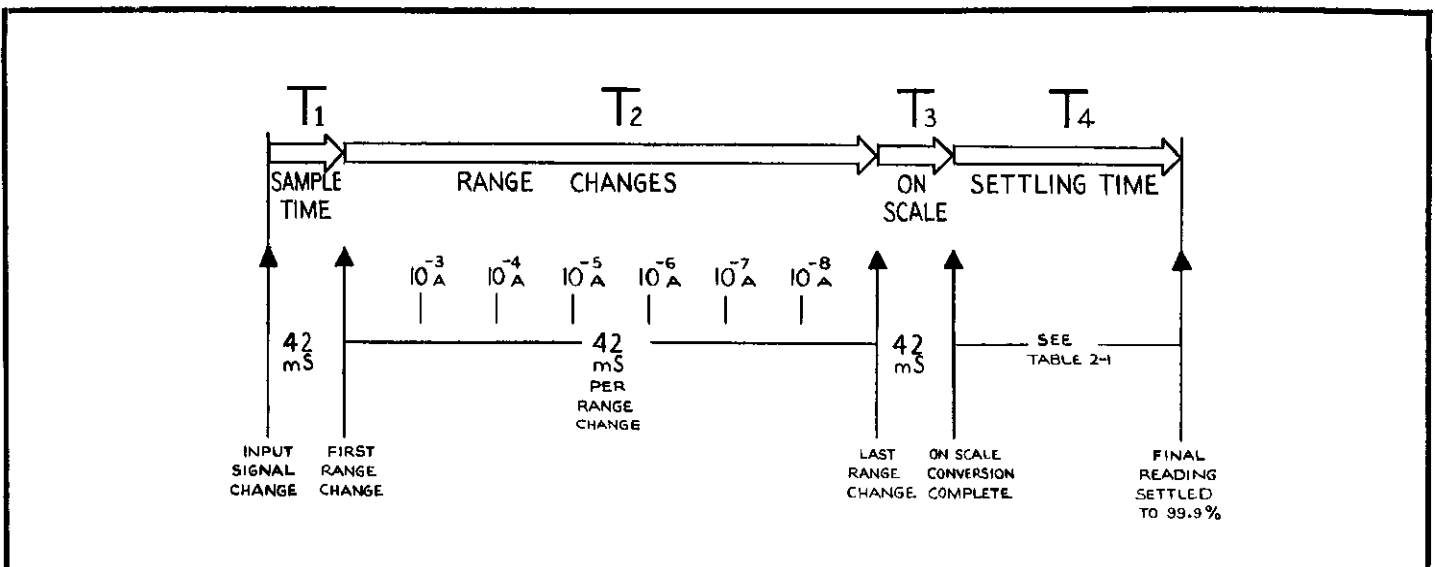

FIGURE 5. Reading Time.
g. Reading Time. The time interval for a new reading to take place depends on the Model 445 front panel settings as well as the characteristics of the input signal. The various time intervals which constitute the total reading time are described as follows. The intervals are graphically shown in Figure 5.